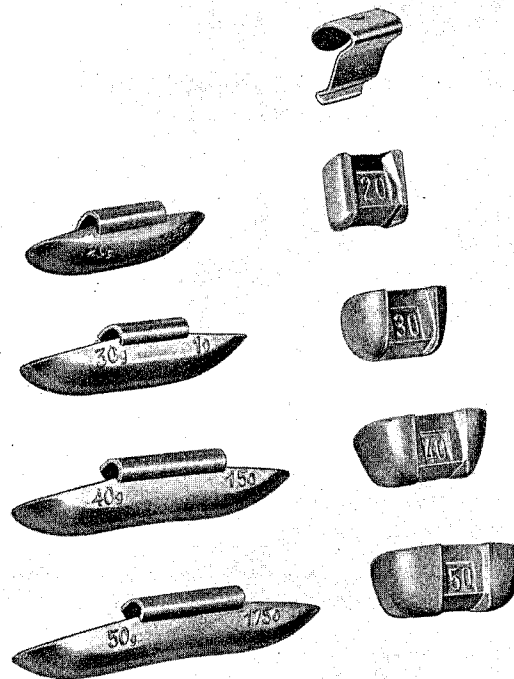

Fig. 44
**Version a)** (see fig. 44 on the left)
**Version b)** (see fig. 44 on the right)